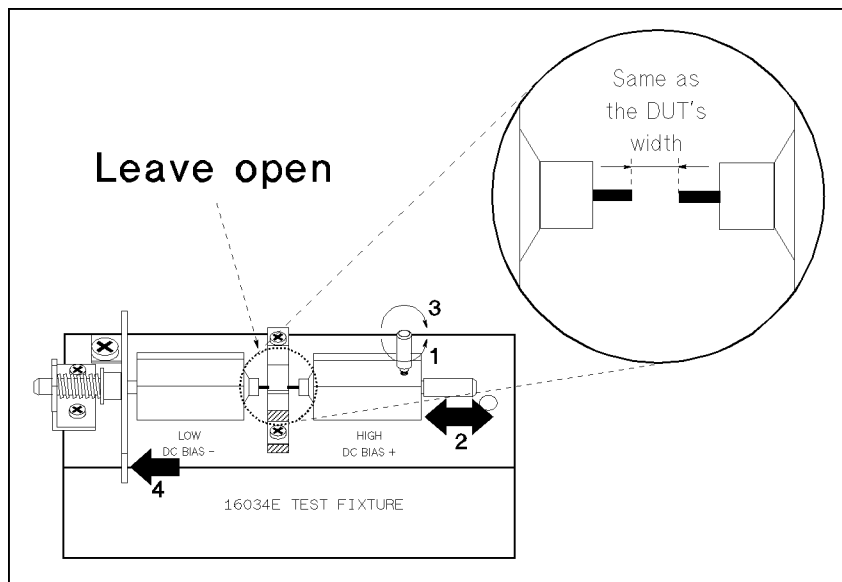

Figure 3-6. 16034E Contacts in OPEN Condition
- a. Leave the 16034E electrode contacts OPEN as shown in Figure 3-6. When measuring OPEN correction data, the distance between high and low contact electrodes should be same as when the DUT is connected.